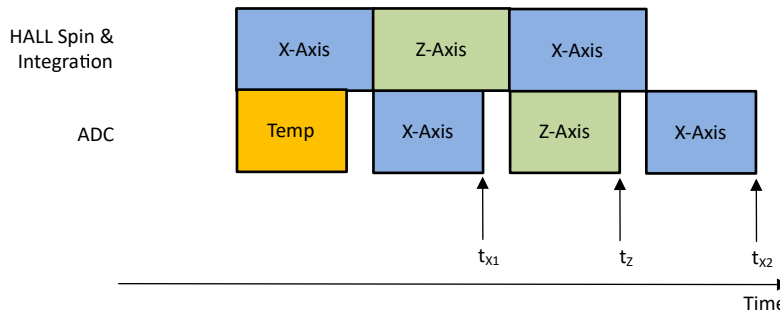

Figure 7-3. XZX Magnetic Field Conversion
In absolute angle measurement, application sensor data from multiple axes are required to calculate an accurate angle. The magnetic field data collected at different times through the same signal chain introduces error in angle calculation. The TMAG5273 offers pseudo-simultaneous sampling data collection modes to eliminate this error. Figure 7-3 shows an example where MAG_CH_EN is set at 1011b to collect XZX data. Equation 18 shows that the time stamps for the X and Z sensor data are the same.
- t_{x1} , t_z , t_{x2} are time stamps for X, Z, X sensor data completion as defined in Figure 7-3.